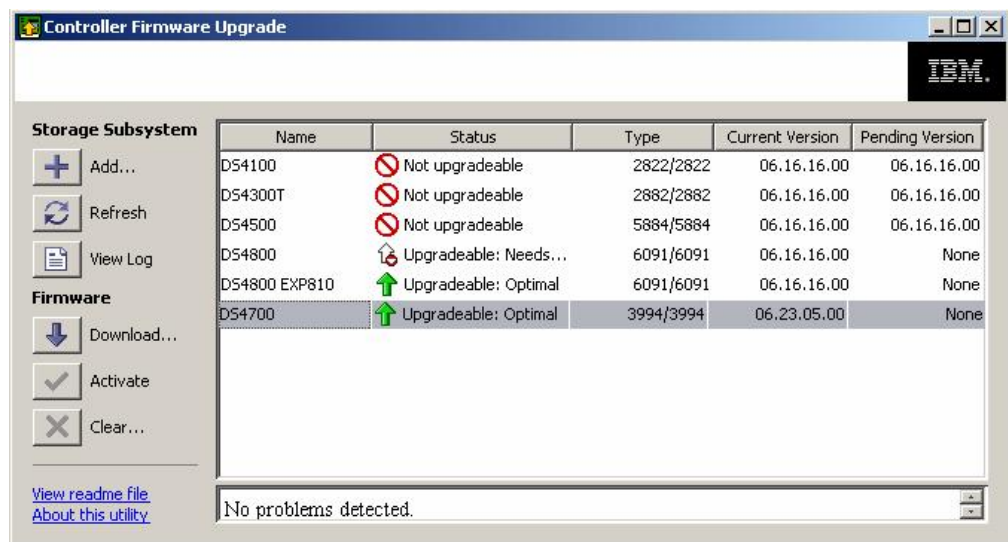

Figure 41. Firmware upgrade utility: Status window
If multiple systems are added or automatically discovered, they are presented in the graphical interface and sorted by controller types and grouped as upgradeable or non-upgradeable, as shown in Figure 41. After the DS4000 system is added successfully, the upgrade utility performs an automatic check for any non-optimal condition that would prevent the upgrade from succeeding.
9. Check the status detected by the upgrade utility for your specific DS4000 to upgrade. The status column shows different values depending on the version found in the storage system and the system itself, since not all the models are compatible with Version 7.xx and later. Models not supported by this firmware continue to use the Storage Manager to install upgrades up to the latest level available for the particular model. The only status that allows you to proceed with the firmware upgrade is Upgradeable:Optimal, as shown in Figure 41 on page 55.
11. Click the **Download** button in the left margin (Figure 41 on page 55) under **Firmware**. A dialog is displayed (Figure 43 on page 58).